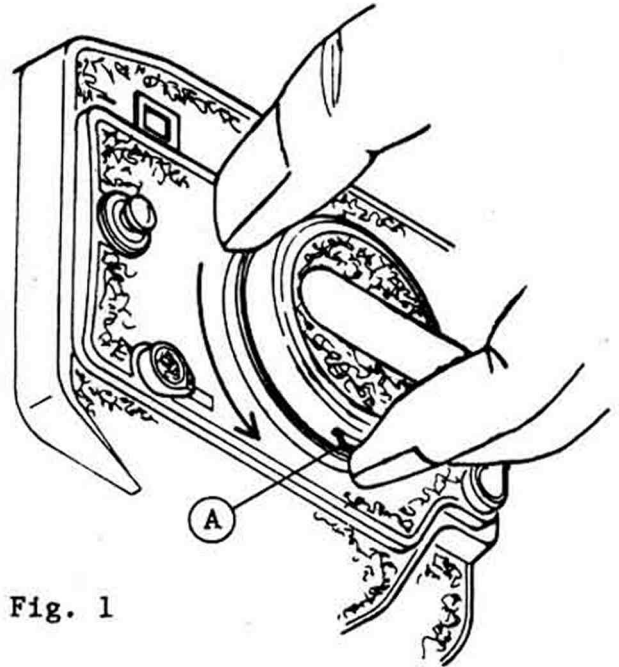

Fig. 1
- 2 Rotate it counterclockwise approximately  $20^{\circ}$  while simultaneously pushing in on the release lever (A), and it will detach as shown in Fig. 1.